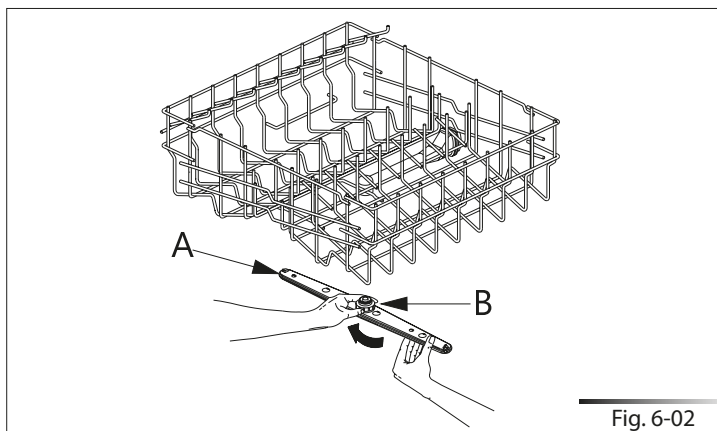

Fig. 6-02
- To remove the **upper** spray arm (ref. A fig. 6-02), unscrew the locking ring (ref. B fig. 6-02) by turning it clockwise. After cleaning, remount the spray arm in its seat and tighten the locking ring by turning it anti-clockwise.